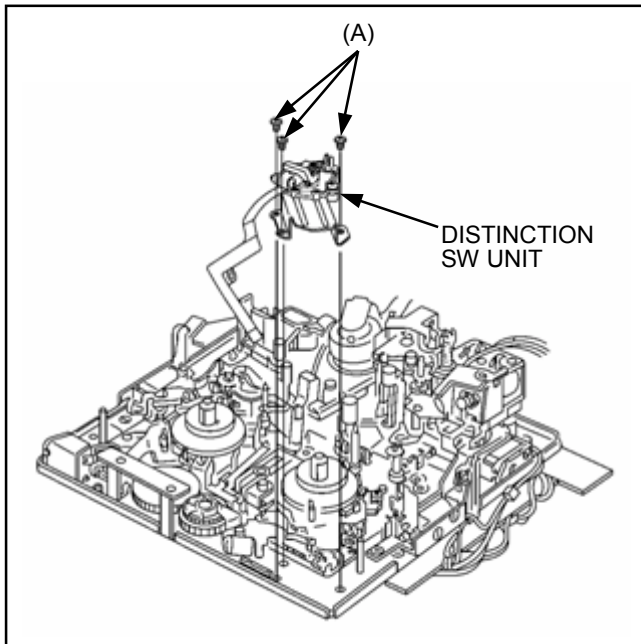

Figure 5-23-1
2. Remove the MIC Drive Rev Spring at Distinction Switch Unit side as shown in Figure 5-23-1.
3. Unscrew the 3 screws (A) and remove the MIC Rail Unit as shown in Figure 5-23-1.